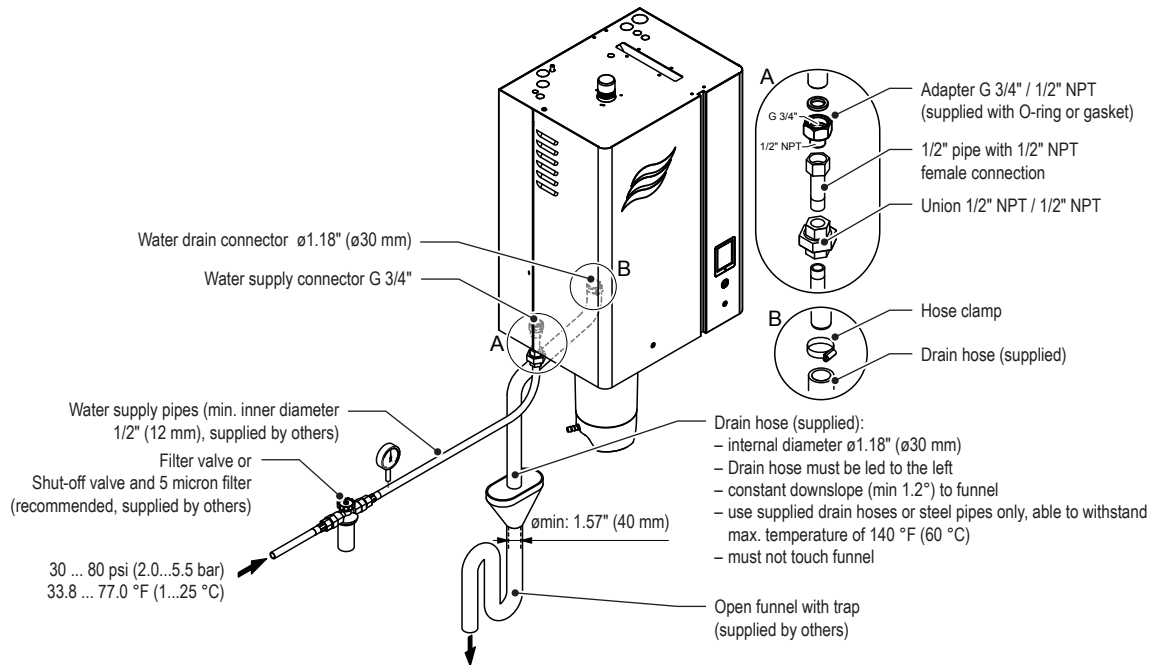
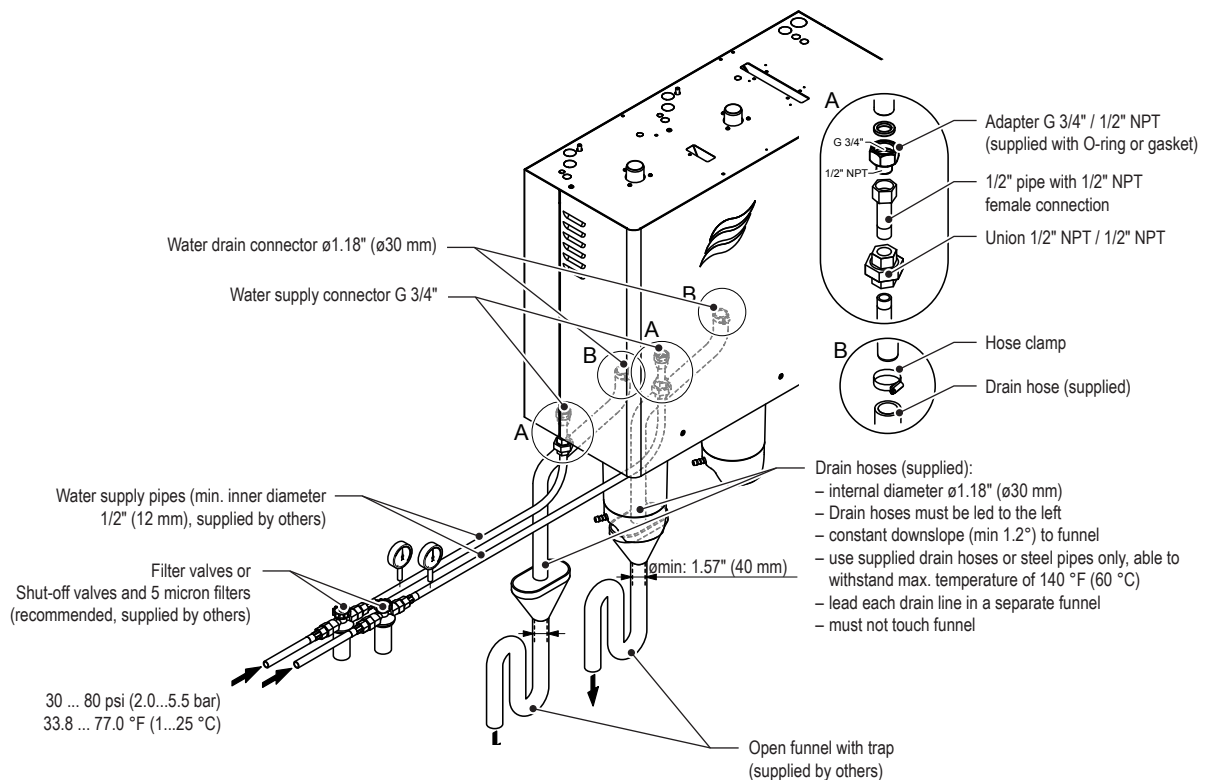
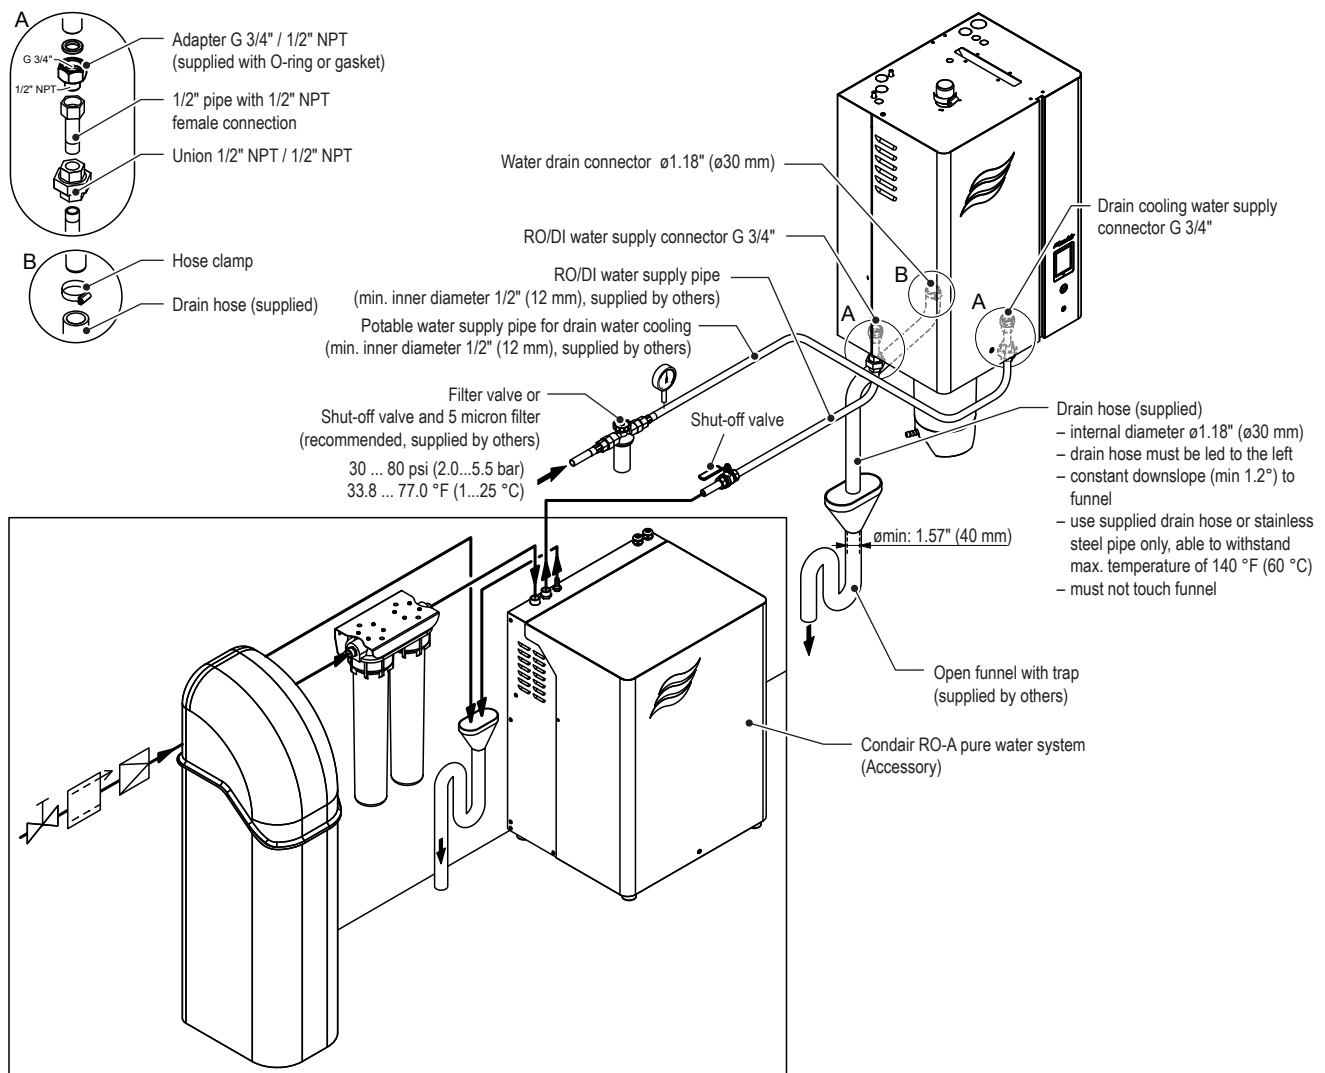
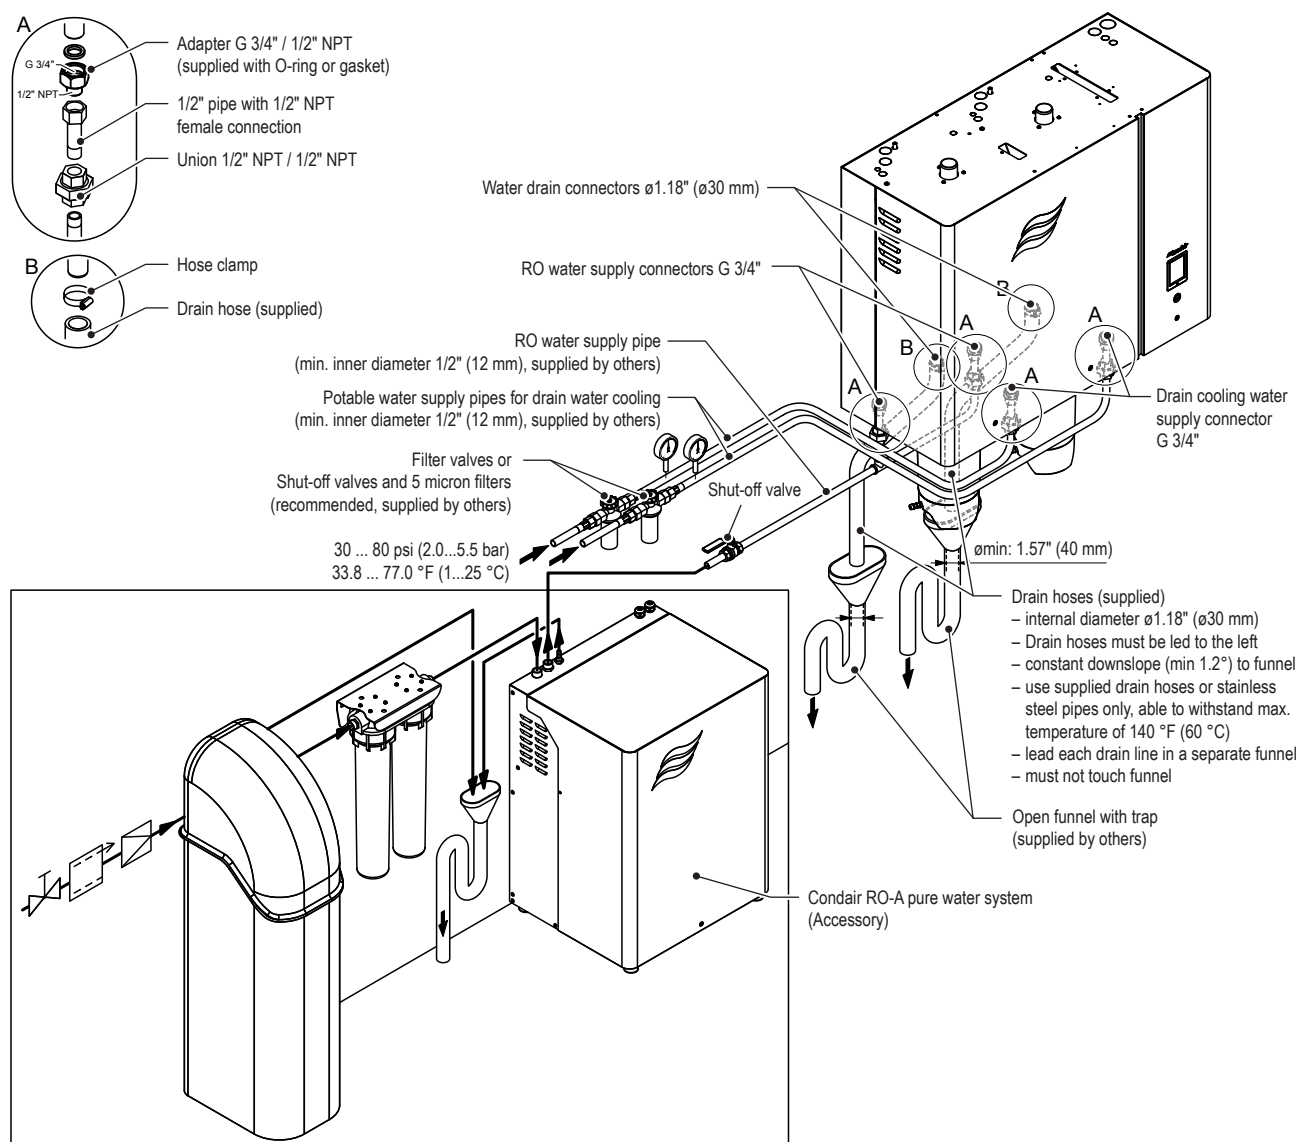

Fig. 17: Overview water installation for single units Small and Medium
Fig. 18: Overview water installation for single units Large
Fig. 19: Overview water installation for single units Small and Medium (with RS-RO option installed)
Fig. 20: Overview water installation for single units Large (with RS-RO option installed)
The water supply is to be carried out according to Fig. 17 and Fig. 18 or Fig. 19 and Fig. 20 and the applicable local regulations for water installations. The indicated connection specifications must be observed.
With the RS-RO option installed the water supply and the drain cooling water supply are to be carried out according to Fig. 19 and Fig. 20 and the applicable local regulations for water installations. The indicated connection specifications must be observed.
- The RO water supply must be connected to the inlet connector(s) according to Fig. 19 and Fig. 20. Use only installation material that is approved for RO or DI water to connect the RO-A pure water system to the Condair RS. All water supply requirements outlined in Section 5.6.3 must also be adhered to with the RO or DI water supply.
The separate drain cooling water supply must be connected to the optional drain water cooling inlet valve(s) provided with the RS-RO option according to Fig. 19 and Fig. 20. Please observe the following notes regarding the drain cooling water supply installation.
- Always lead the supplied drain hose from the connector to the left down to the funnel (see Fig. 17).
On large units with two steam cylinders each drain line must be led into a separate funnel with trap (see Fig. 18).
- ☐ Has RO water supply been connected to the water inlet connector according to Fig. 19 and Fig. 20 and has installation material been used approved for use with RO water?